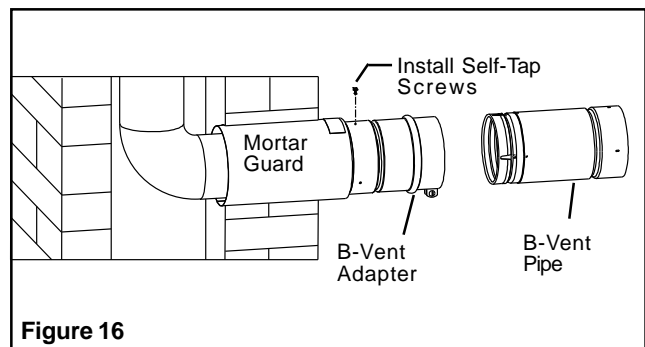

Figure 16
3. Engage the outlet end of the universal B Vent Adapter with the flex pipe. Once fully engaged, secure the flex to the adapter using four (4) self-tapping sheet metal screws. Install the screws so that they penetrate through the flexible liner and the inner liner of the adapter (see Figure 16).